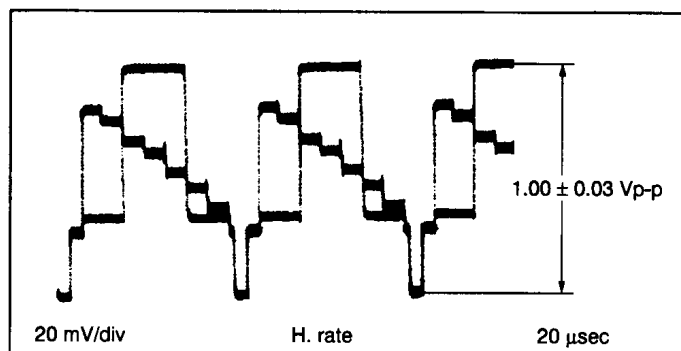

Fig. 3-3-6 PB Y level
- (1) Connect an oscilloscope to Y OUT TERMINAL.
- (2) Set the EVR mode by pressing the "K" button of the presetting unit.
- (3) Set "A : 11" by twice pressing 1 button of the remote controller.
- (4) Record a colour bar signal in the S-VHS mode, and playback the recorded colour bar signal.
- (5) Adjust the CH "▲" or "▼" buttons for  $1.00 \pm 0.03$  Vp-p as shown in Fig. 3-3-6.
- (6) Set the normal VCR mode by pressing the "K" button of the presetting unit again so adjustment data is memorized.
- (7) Repeat steps (1) to (6) in the VHS mode.